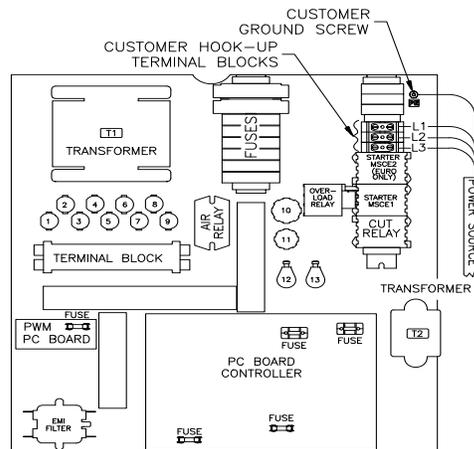

Figure 11
3. Fasten the ground lead to the ground terminal lug (Figure 11 on page 19).